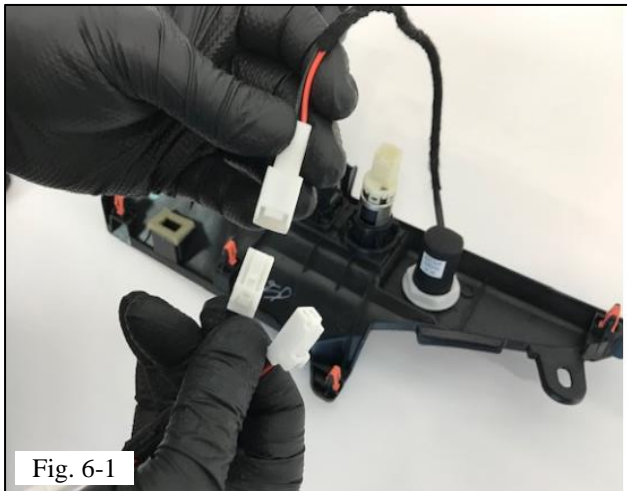

Fig. 6-1
- (a) Connect H-Jumper harness to the Power Port wire harness (Fig. 6-1).